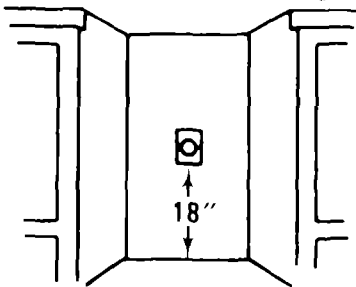

FIGURE 10
2. The recess must have a grounded outlet 18" min (45 cm) above the floor as shown in Figure 10.